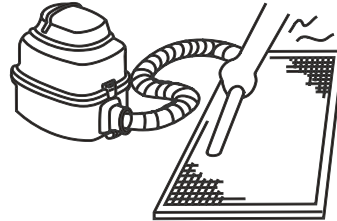

Figure 14.2
- a. The air intake side should face up when using a vacuum cleaner. (Refer to Figure 14.2)